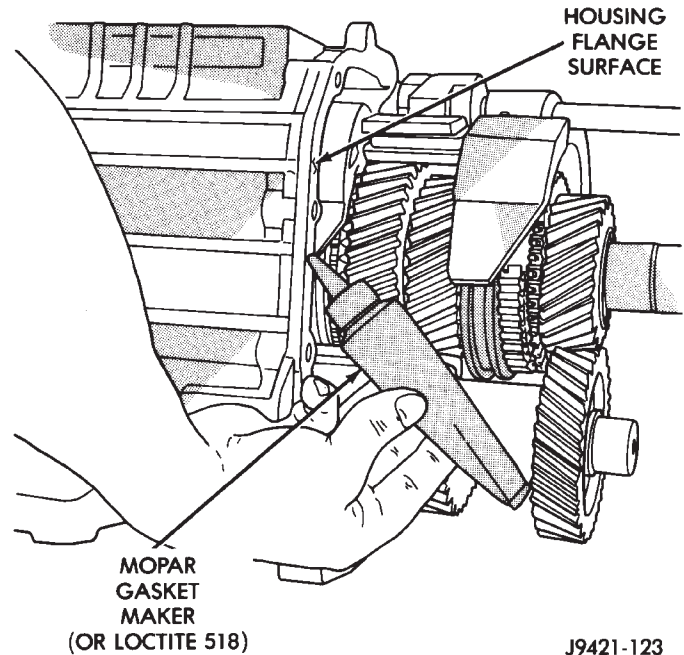

Fig. 120 Applying Sealer To Front/Rear Housings
(4) Apply small amount of petroleum jelly to shift shaft bushing in front housing (Fig. 120).
(5) Apply 1/8 in. wide bead of Mopar® Gasket Maker, or equivalent, to mating surfaces of front and rear housings (Fig. 120).